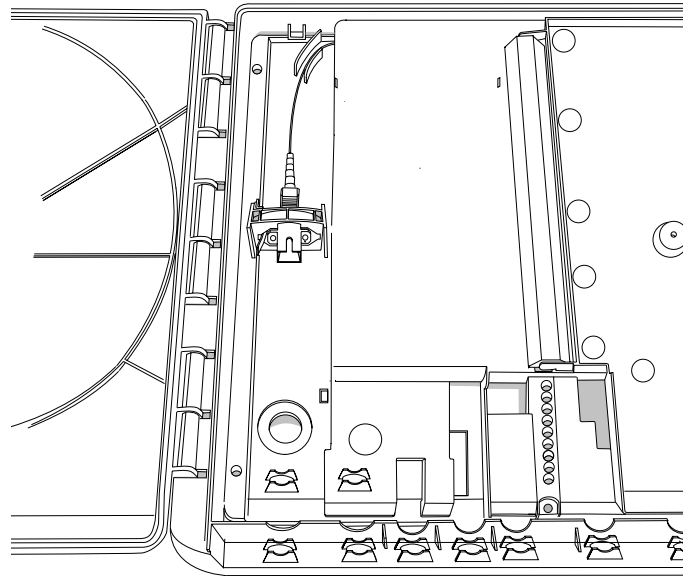

Figure 7
**6.1** Open the NID and access the inner compartment (Figure 7).
**6.2** Remove the backing from the splice holder and stick position it in the NID (Figure 7).